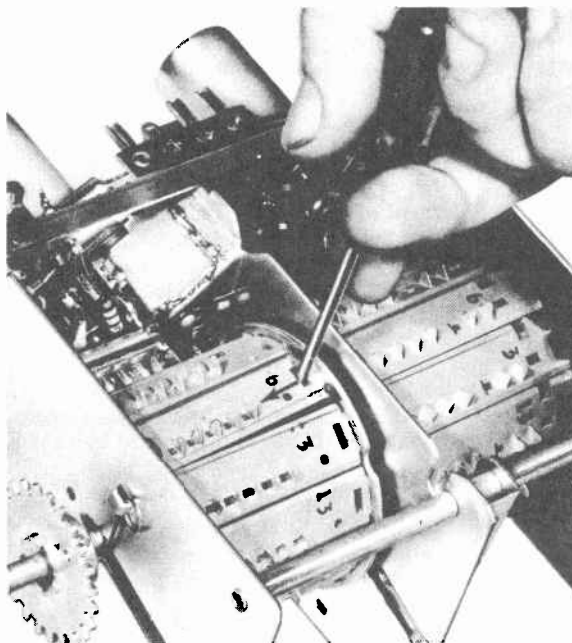

Fig. 13 Removing Channel Strips.
2. Insert a small screwdriver in the slot (See Fig. 13). Push in the direction of arrow until the channel strip clears the drum slot then lift straight out in direction of screwdriver shaft. Some strips have a round hole instead of a slot and a pointed tool is used in place of the screwdriver.